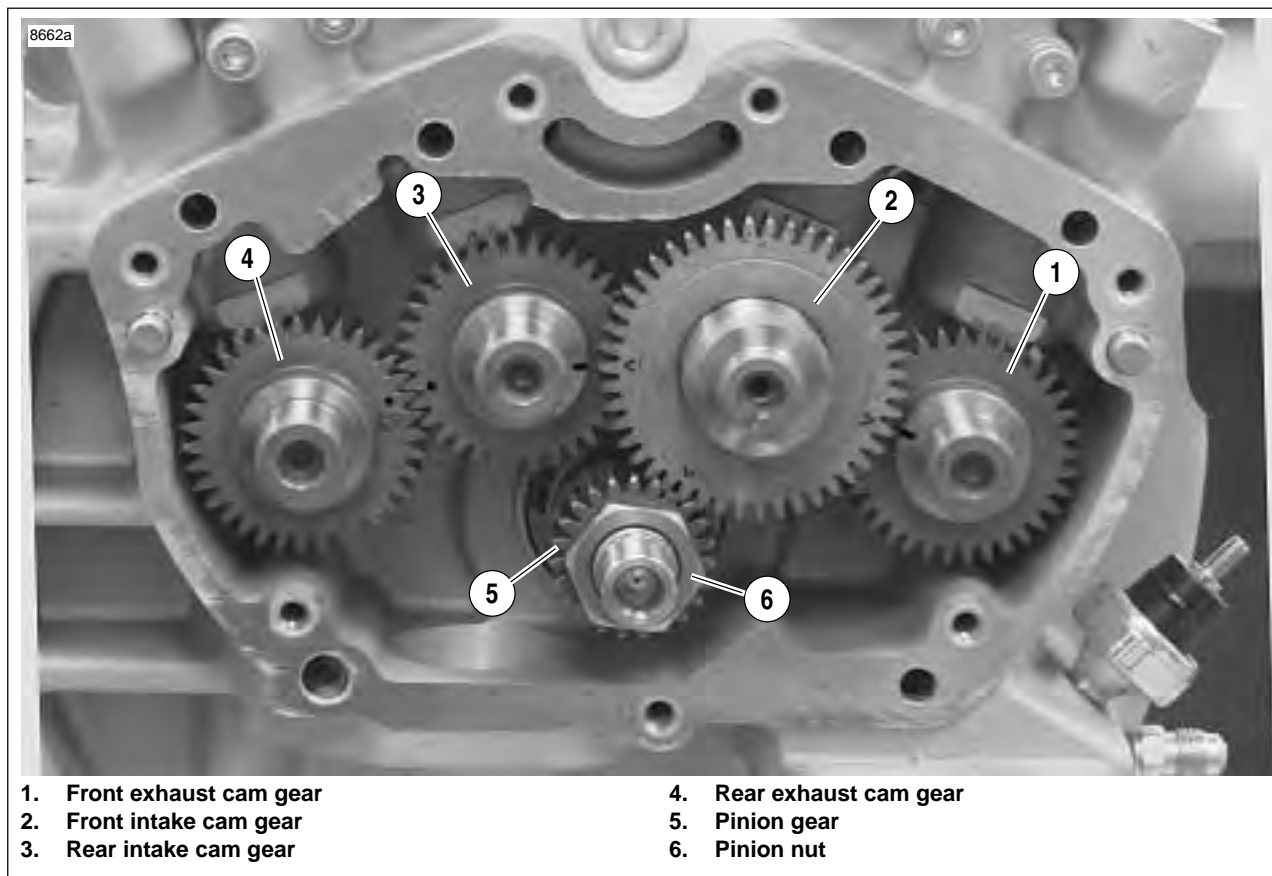

Figure 3-127. Cam and Pinion Gear Location and Timing Mark Indexing
8. See Figure 3-127. Remove cam gears (1, 2, 3 & 4).
See Figure 3-127. The XB9R uses new style timing marks on the front intake cam assembly (2). Please note the "V" markings.